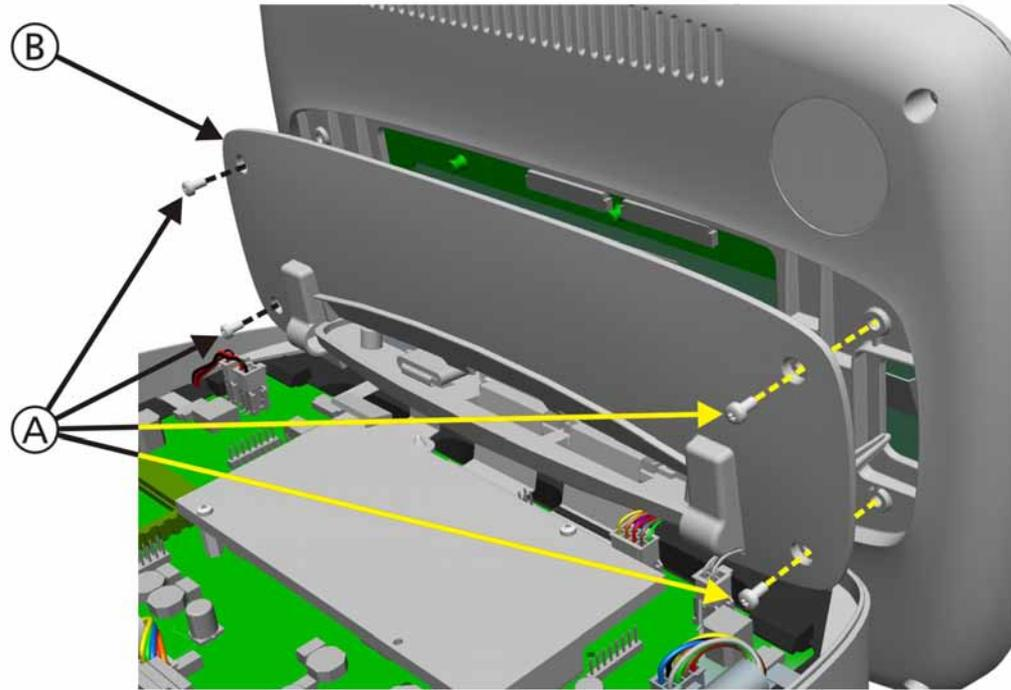

Figure 11-2. Interaction Panel Small Cover Removal
- Figure 11-2, *Interaction Panel Small Cover Removal*, on page 11-7